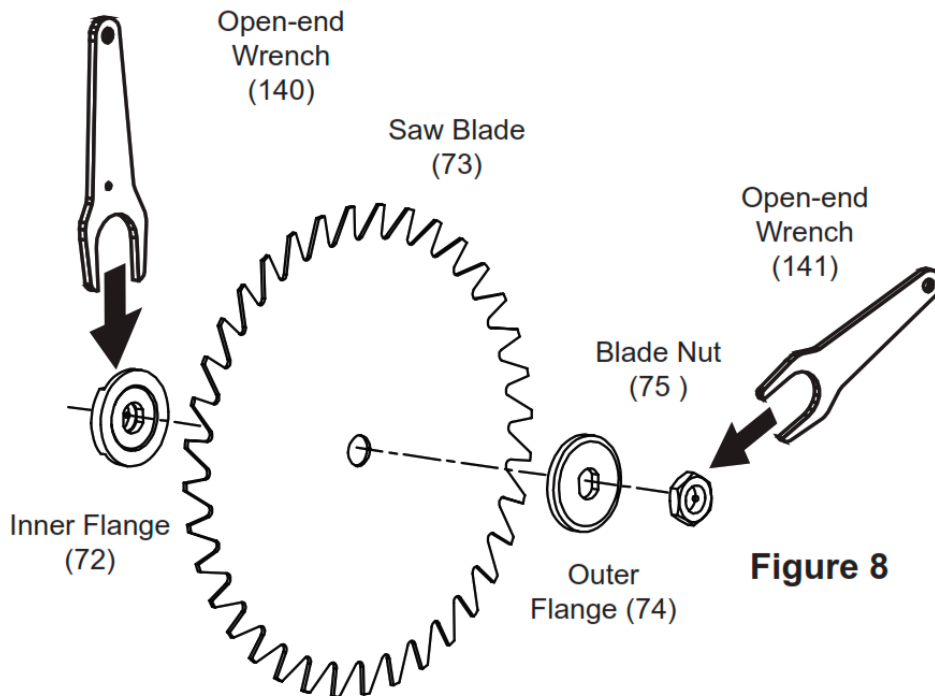

Figure 8
5. With the Open-end Wrench (140), hold the Inner Flange (72) and use the other Open-end Wrench (141) to loosen the Blade Nut (75). Then remove the Blade Nut and Outer Flange (74) and remove old blade. See Figure 8, below.